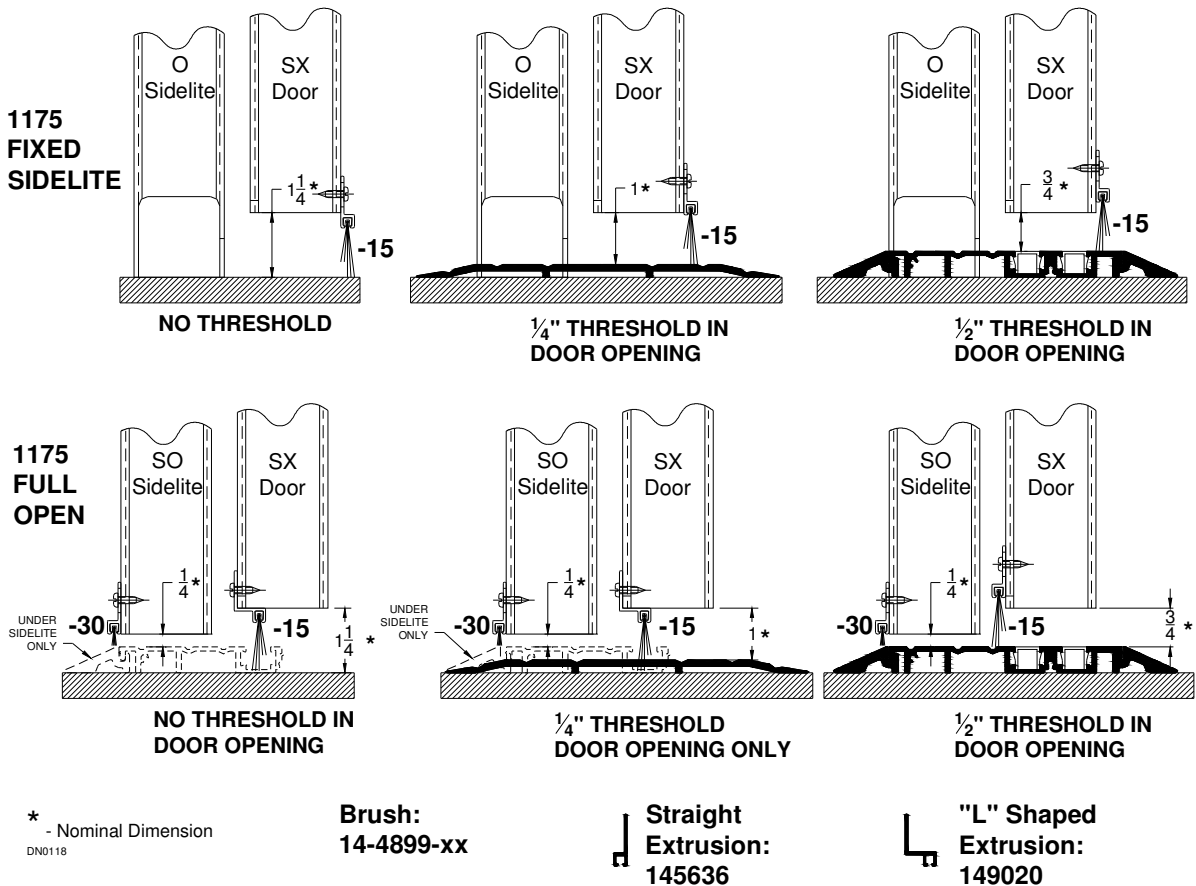

Figure 39
2. Locate "L" shaped weathering brush on outside of door along bottom edge (See Figure 39). Edge of extrusion should end at curve of front edge of door.